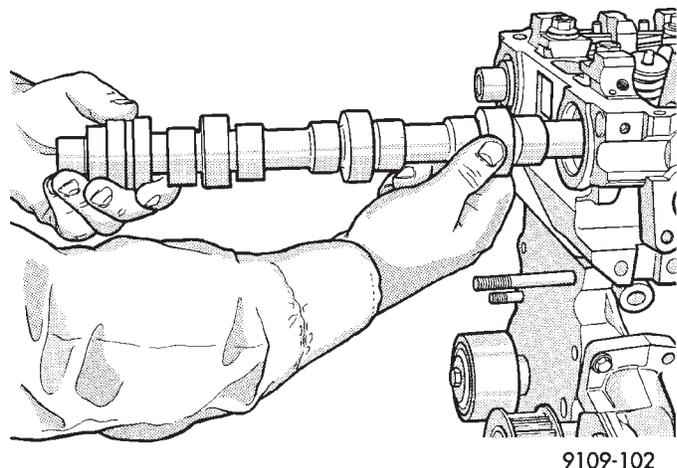

Fig. 4 Camshaft-Removal or Installation
(6) Slide the camshaft out of the cylinder head. Be careful not scratch the bearing surfaces in the head (Fig. 4).
Camshaft lobe wear should not exceed .25mm (.010 inch). To measure cam lobe wear (Fig. 4), measure lobe diameter in two places at the largest diameter (over the nose). Take first reading with micrometer in unworn area at the edge of the lobe. Take second reading in the worn area where rocker arm contacts the lobe. Subtract second reading from the first. The difference is the cam lobe wear.